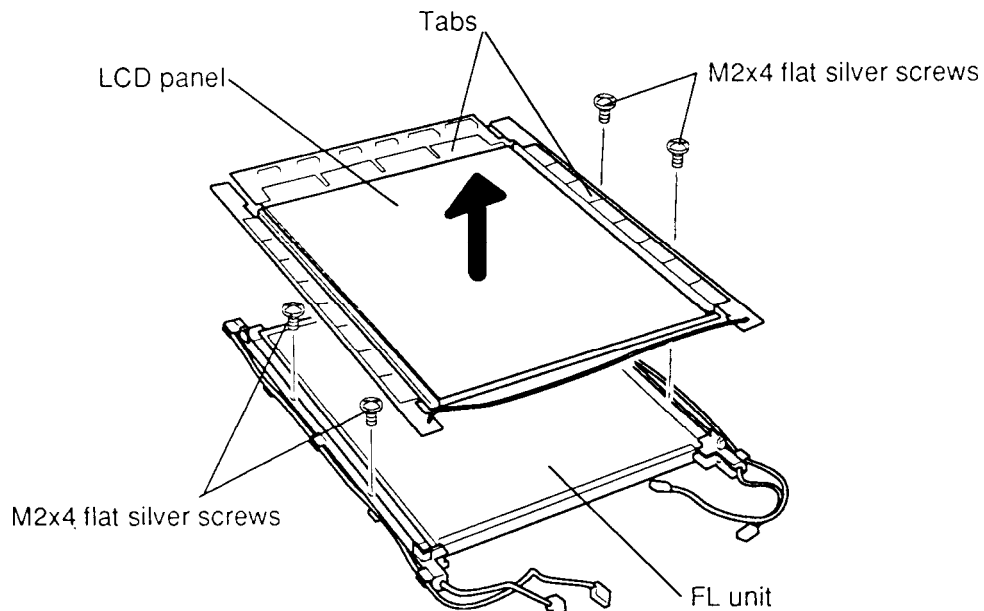

Figure 4-42 Removing the FL Unit from the Display Panel
6. Gently unsnap the **LCD panel** at the corners from the **FL unit** and lift it off the panel (Figure 4-42).
7. To separate the **FL unit** from the back frame, remove the **four M2x4 flat silver screws**. (Figure 4-42).
1. Place the **FL unit** on the back frame and secure them with **four M2x4 flat silver screws** (Figure 4-42).
2. Place the **LCD panel** on the **FL unit** and press on the sides to secure the snaps (Figure 4-42).